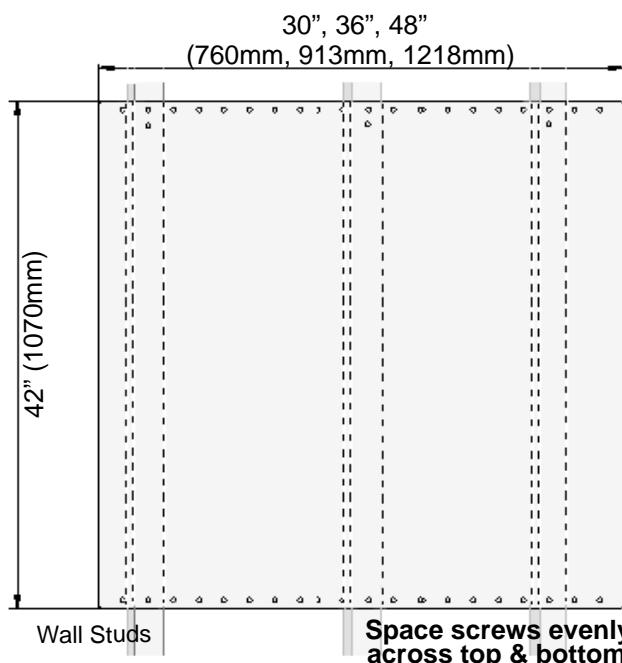

Figure 1: Backsplash Installation
(1) Installation Guide	Pencil
- Per each wall stud, use (2) of the provided screws to secure both the top and bottom of the backsplash (see Figure 1).